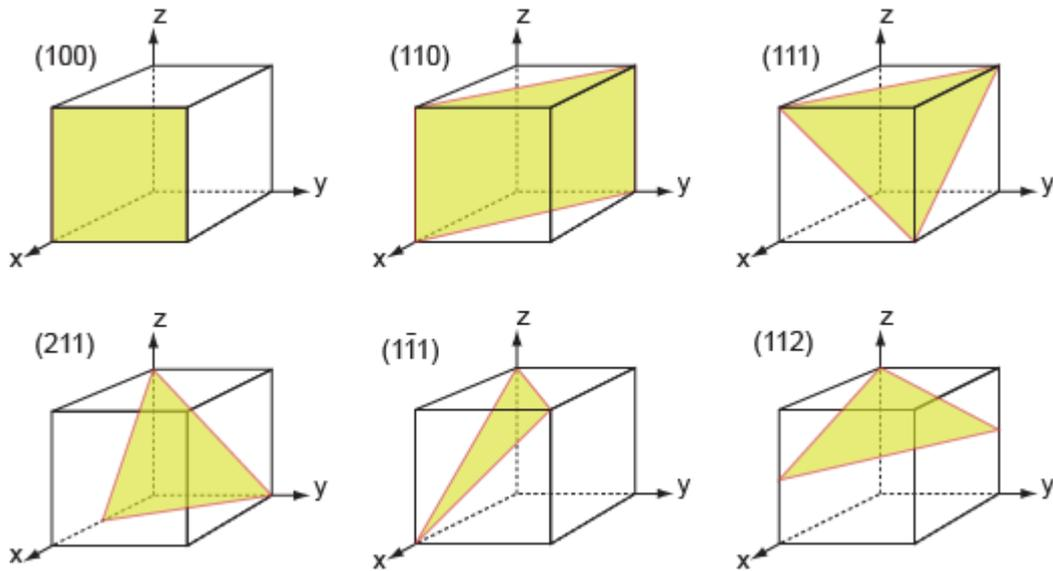

Figure C23. The procedure for finding the Miller Indices of a plane. The indices of four common planes are shown on the right.
Figure C23 illustrates how the Miller indices of a plane are found. Draw the plane in the unit cell so that it does **not** contain the origin – if it does, displace it along one axis until it doesn't. Extend the plane until it intersects the axes. Measure the intercepts, in units of the cell edge-length, and take the reciprocals. (If the plane is parallel to an axis, its intercept is at infinity and the reciprocal is zero.) Reduce the result to the smallest set of integers by multiplying through to get rid of fractions or dividing to remove common factors. The six little sketches show, in order, the (100), the (110), the (111), the (211), the ( $\bar{1}\bar{1}$ ) and the (112) planes; the  $\bar{1}$  means that the plane intercepts the y-axis at the point -1. Check that you get the same indices.